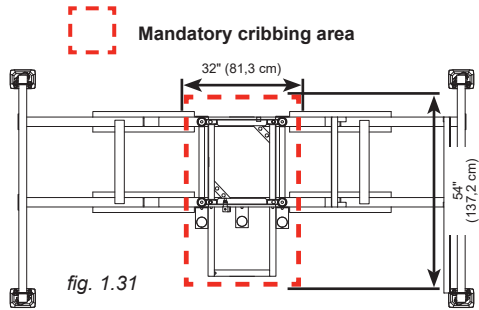

fig. 1.30
Make sure the ground or support surface capacity meets with values included in the *Minimum Bearing Surface Capacities* table (fig. 1.30). Soil compacting, cribbing or shoring can increase bearing capacity. Any cribbing product or cribbing method approved by the site engineer can be used to distribute the load on the bearing surface providing it meets the values in the *Minimum Bearing Surface Capacities* table (fig. 1.30). Contact an engineer for assistance.
- 7- Before installing the motorized unit, determine where the cribbing under the base and its back extension will rest. The bearing surface under the cribbing must be level, clear of debris and have the proper bearing capacity (see the *Minimum Bearing Surface Capacities* table, fig. 1.30, p. 16). Should the actual bearing capacity be inferior to the values in the table, seek instructions and recommendations from the site engineer. It is important to note that **the jacks on the base are designed to plumb the mast and must not be used to support the load nor the motorized unit.**